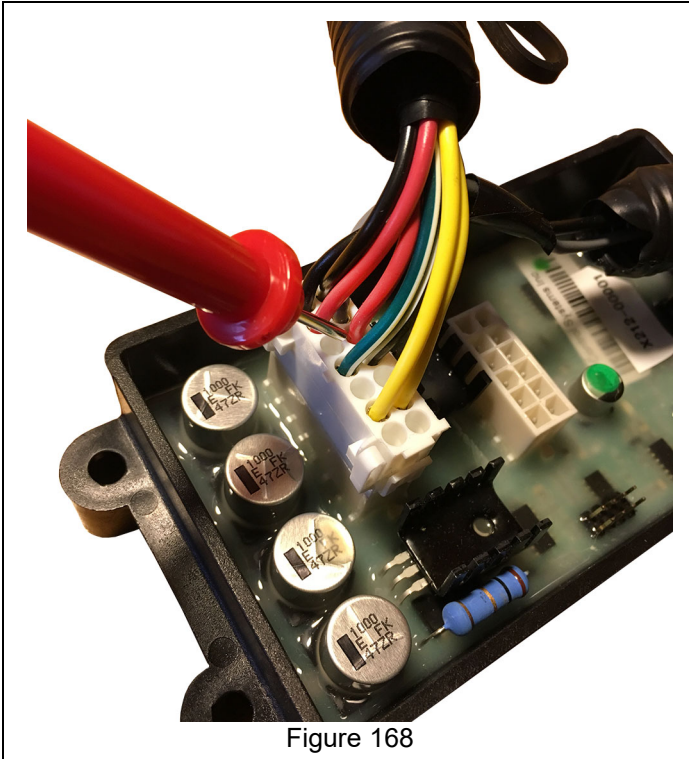

Figure 168
1. Set a multi-meter to ohms (Ω) and measure the potentiometer resistance. See Figure 167 and Figure 168.
Also see Figure 168.